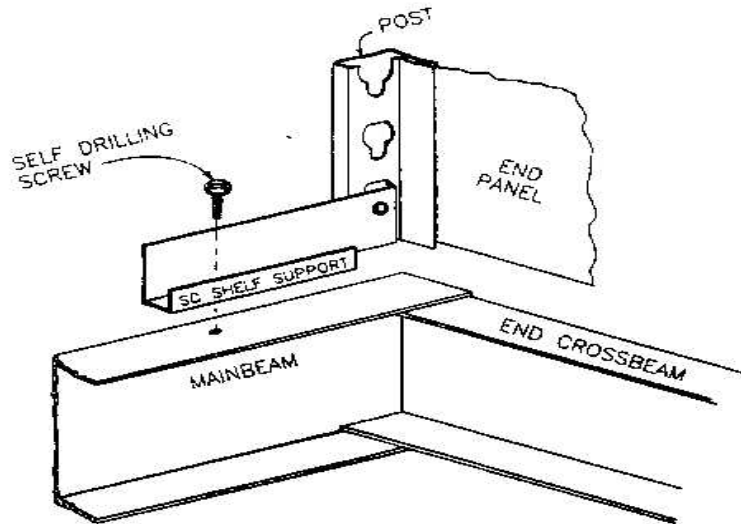

Figure 10
13. Using two (2) single rivet shelf supports (“SC”), attach shelf support to bottom-most mounting holes (“key-holes”) so that the shelf supports lie on top of (flush) to the mobile bases.
14. Secure shelf supports to mobile base with supplied fasteners through holes in lower shelf support. (See Figure 10).